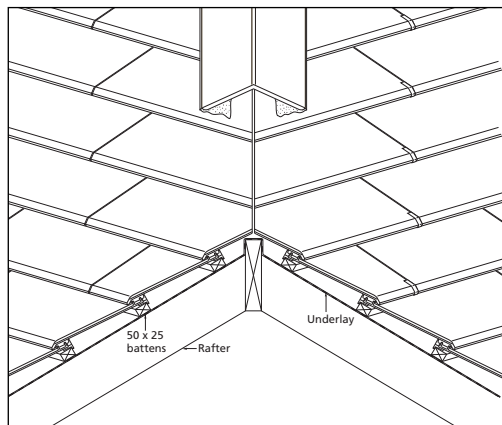

Fig 77 - Section through bedded hip (eaves not shown)
- 2 Before bedding the hip tile, it is recommended that a coat of bonding agent be applied at the appropriate position on the slates and to the inside of the hip tile. The mortar should contain an additive to prevent shrinkage (Fig 77).